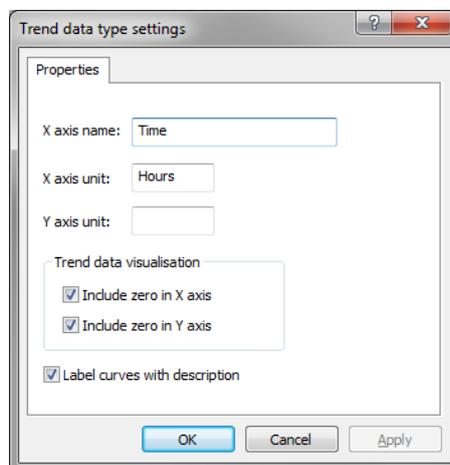

Figure 16: General settings.
9. Select *Settings* > *General settings...* (⌘+T) to call the *Curve settings* dialog box (see Figure 16).